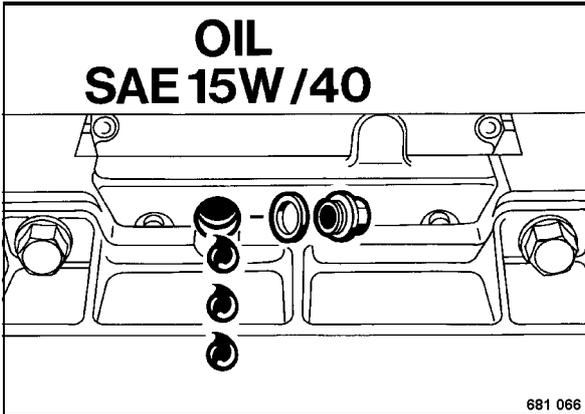

Fig. 60
- Unscrew the level plug (Fig. 60) and check the oil level.